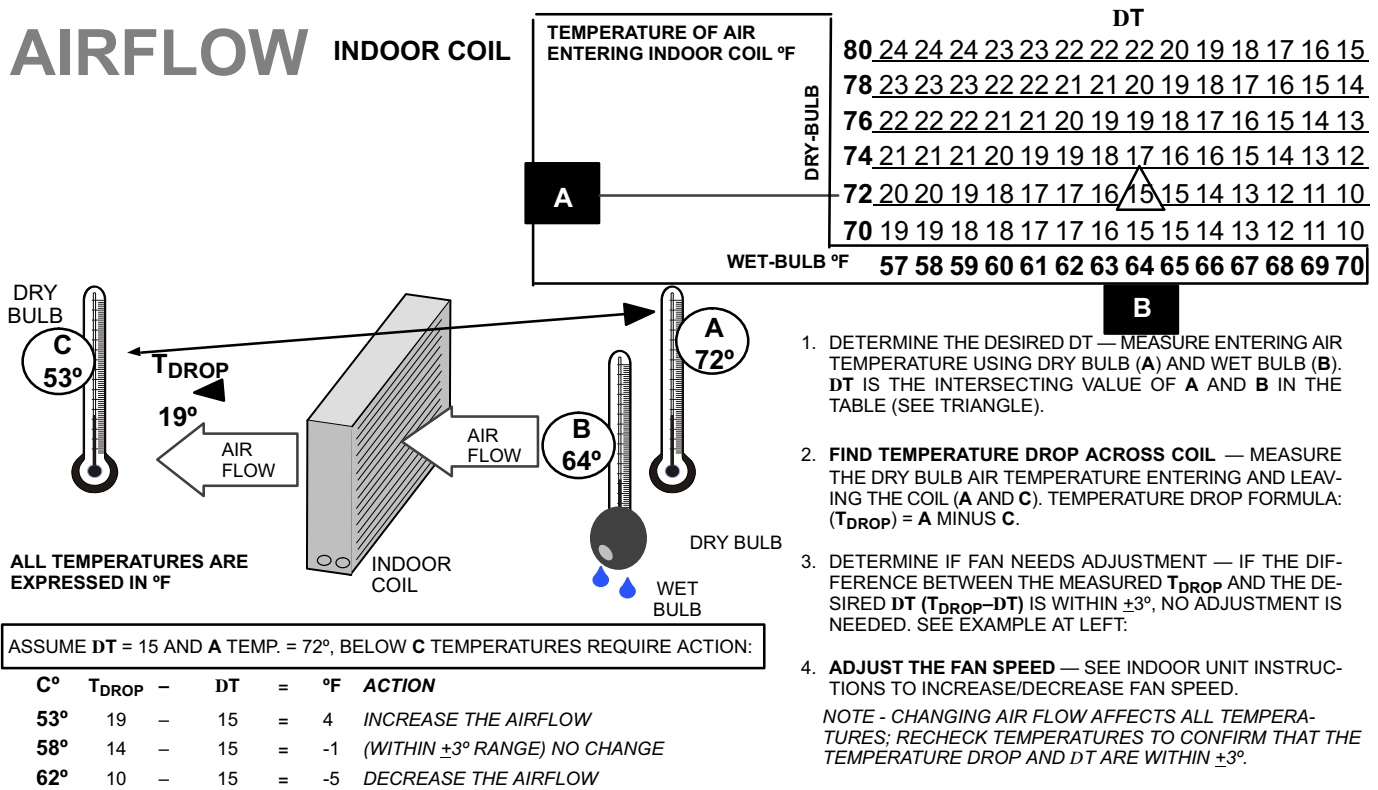

Figure 36. Checking Indoor Airflow over Evaporator Coil using Delta-T Chart
2. Check and adjust indoor airflow as described in figure 36.
Check airflow using the Delta-T (DT) process using the illustration in figure 36.